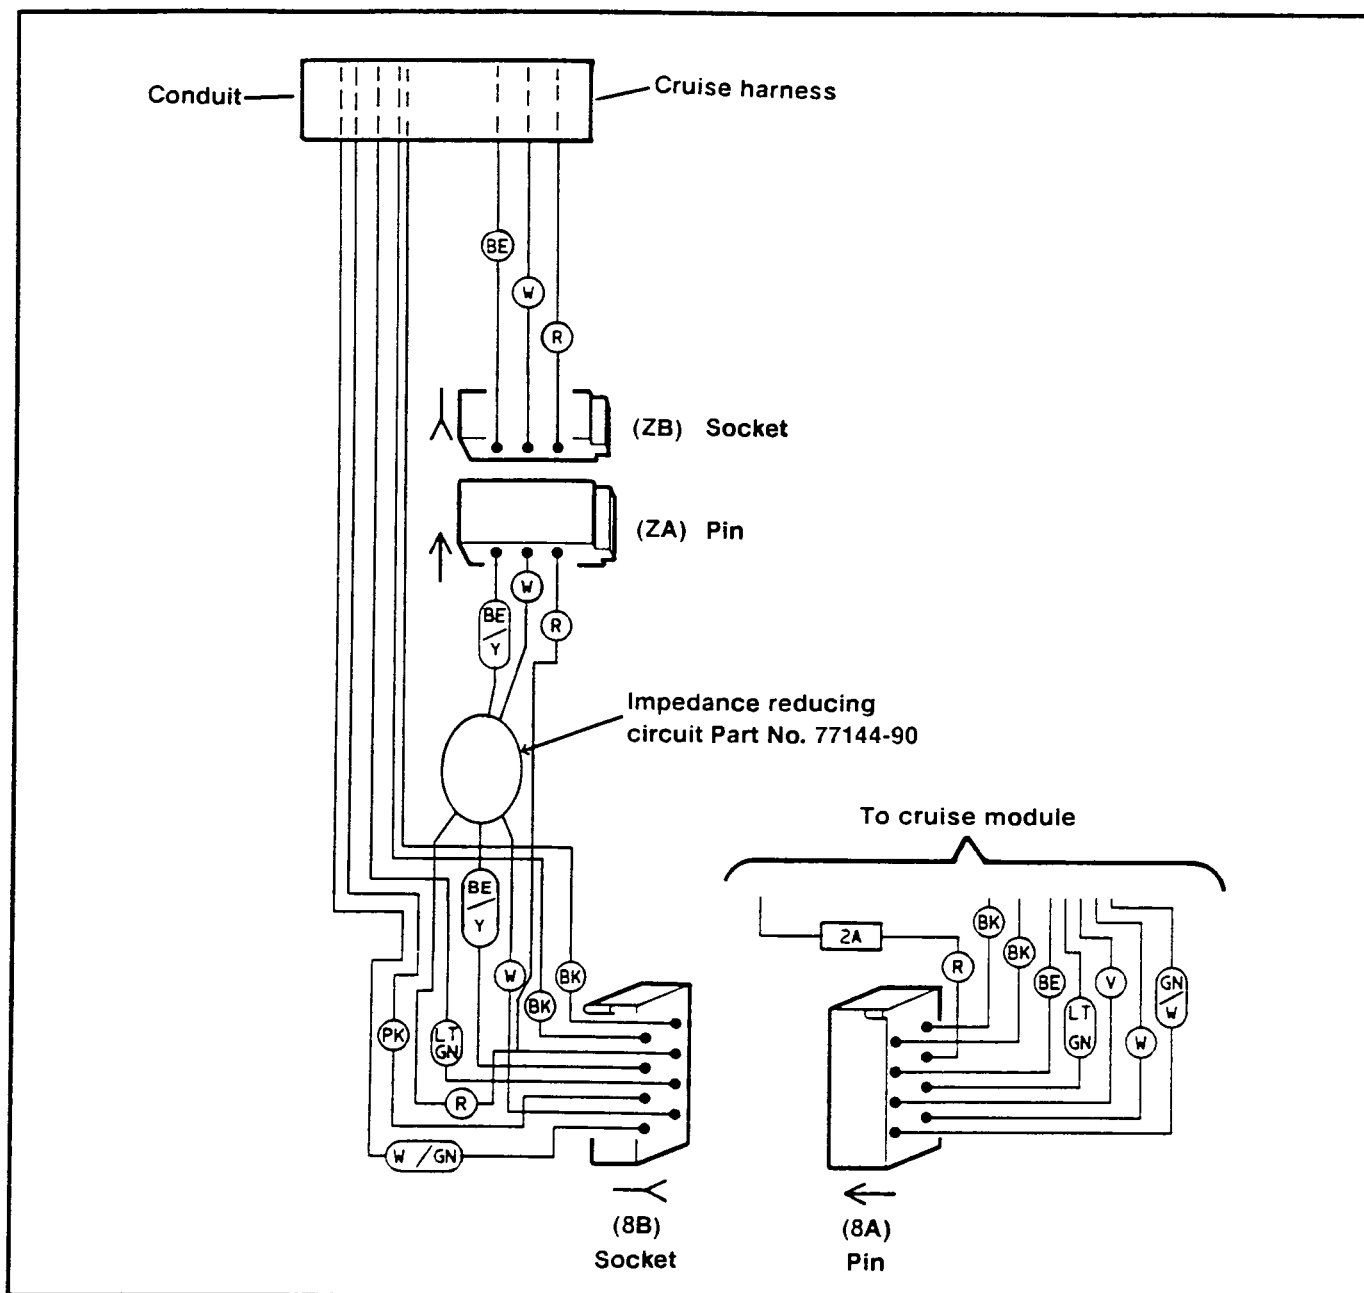

Figure 1. Wiring Diagram Of Impedance Reducing Circuit Installed In Cruise Harness
1. See Figure 1. Turn Cruise switch "OFF" and unplug 8-place connector 8A & B. With ohmmeter measure resistance between red lead at socket terminal on 8B and blue/yellow lead at pin connector ZA. Resistance must be 150 - 300 ohms. Any other resistance reading indicates Z-circuit is faulty and must be replaced.
To replace Z-circuit remove the three pin terminals from connector ZA using PIN TERMINAL TOOL Part No. HD-97362-71 and remove the three socket terminals from connector 8B using Socket TERMINAL TOOL, Part No. HD-97364-71. Install new Z-circuit making certain terminals are connected as shown in Figure 1.